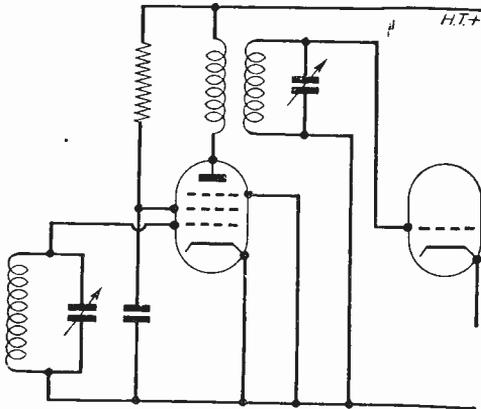

Fig. 51.—Basic transformer—coupled circuit.
The application of a transformer to an R.F. amplifier is indicated in Fig. 51. Now if there are exactly as many turns on the primary as on the secondary, and assuming that all the field of force of one coil cuts the turns of the other coil, that is, assuming perfectly tight coupling, the load on the valve will be exactly as though the tuned circuit were actually in the anode circuit and not just inductively coupled to it. The gain will then be exactly as in the
R.F. coupling transformer in Fig. 51 is given fewer turns than the secondary. The load in the anode of the valve will no longer be the dynamic resistance of the tuned secondary but will be something less, and the actual load is worked out exactly as is done in the case of an audio output transformer, i.e., the reflected load is proportional to the square of the turns ratio. For instance, if there were only half as many turns in the primary as in the secondary the load into which the valve would work would be only a quarter of the dynamic resistance of the tuned secondary. But gain, we have seen, is the anode load multiplied by g_m , and so the voltage at the anode of the valve is reduced to a quarter of what it would be with tuned-anode coupling. Clearly, therefore, with a given degree of feedback caused by the valve and the associated circuit there will be less voltage fed back and therefore less risk of instability. Maybe the reduction in gain by n^2 (where n is the turns ratio and the secondary has the greater number of turns) will seem rather a large price to pay, but it is not really quite so bad as that because the transformer has a step-up ratio of 2:1 and so twice as many volts will appear in the tuned circuit at the secondary as is at the anode of the valve. Thus, though the gain is reduced in proportion to n^2 and the improvement in stability is in that ratio, the step up of voltage in the transformer will be n times, and so the overall gain from the grid of the amplifying valve to the grid of the following valve will be reduced by only n times.